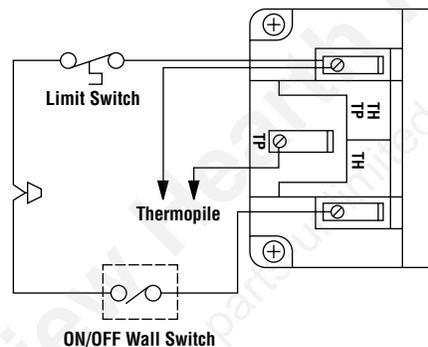

Figure 16
The control tray has been set in place and has been pre-wired at the factory. All that is required, regarding wiring, is to locate and install the wall switch (supplied) in a desired location and connect it to the millivolt circuit using the 18 ft of 2 conductor wire supplied with the unit (Figure 16).
- 5 - Locate and install the millivolt wall switch (supplied) in a desired location and connect it to the millivolt circuit using the 18 ft of 2 conductor wire supplied with the unit (See Figure 16).